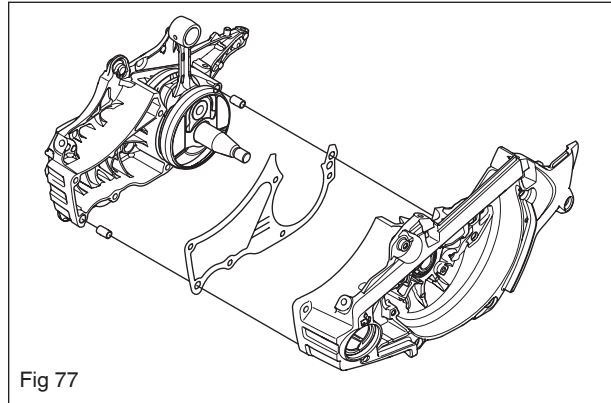

Fig 77
2. Insert the guide pin in the crankcase half on the clutch side, apply grease and fit the gasket(C). See figure 77.